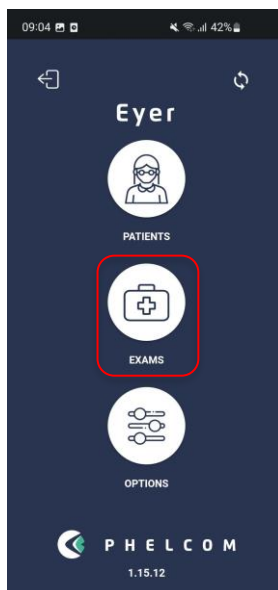

Figure 25 - Home screen - Select exams
1. On the home page, the user must click on "Exams", as shown in figure 25
After login, a screen displays, figure 25. It enables accessing all system functions: patients, exams, and options. Click the synchronization icon , figure 25, to check transfer status, figure 33.
Access option 1, "Patients", in the main screen, figure 25, to register, visualize, alter information, as well as carry out exams and diagnostics through patient information.
Selecting icon 1, figure 25, displays a screen as in figure 34. Here, a list of registered patient names displays. Activate button  and insert patient information. Highlighted fields in figure 35 must be filled in.